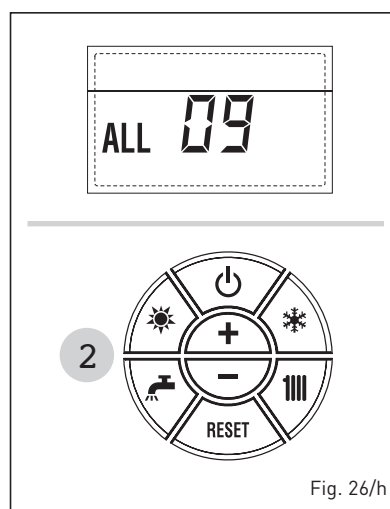

Fig. 26/h
– **ANOMALIA Sonda AUSILIARIA “ALL 10” (fig. 26/i)**